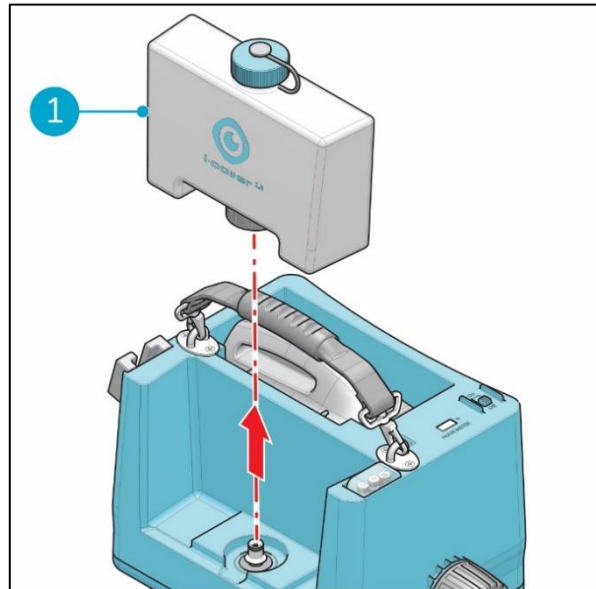

Figure 15
1. Remove the disinfectant tank (Figure 15, pos 1) by pulling it up.